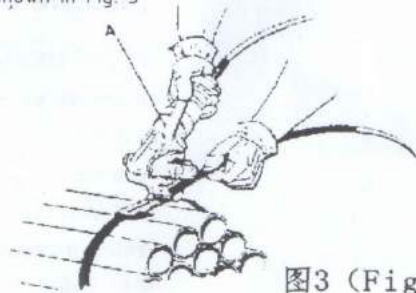

图3 (Fig3)
2.如图 3 所示, 握住减速箱体, 并用大拇指按下松带手柄 A, 将穿过扣子的上层钢带插入收紧滚轮和滚动板齿之间, 然后松开手柄。
2.Hold the deceleration box, press ungird handler A with the thumb. Place the top strap into the interval between feed wheel and rolling plate teeth, then loose ungird handler A as shown in Fig. 3